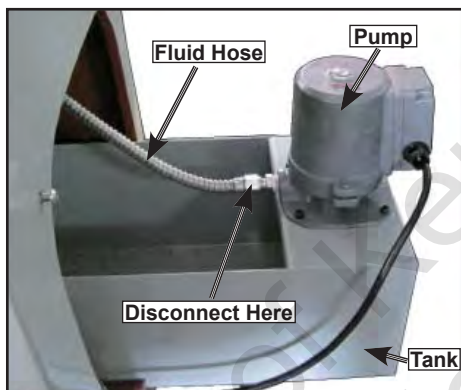

Figure 73. Cutting fluid pump and tank.
2. Remove the vented cover and slide the tank out, as shown in Figure 73.
5. Remove the vented cover and slide the tank half way out of the base, as shown in Figure 73.
If necessary, disconnect the fluid hose from the pump, where shown in Figure 73.